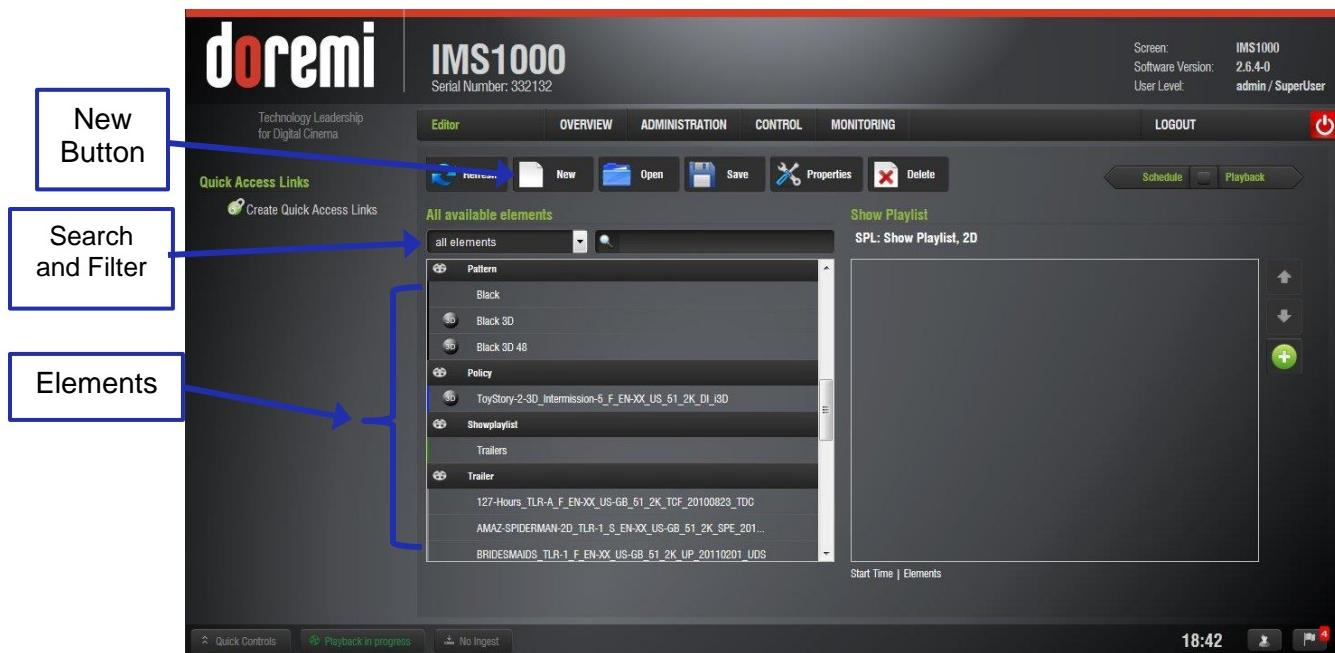

Figure 223: Editor Tab
- Click on the New button from the CineLister Editor tab (Figure 223).
- Click on the elements to add to the SPL from the left pane of the GUI (Figure 223).
- The user can filter the elements or search for a specific element to make it easier to add them to a Show Playlist (Figure 223).